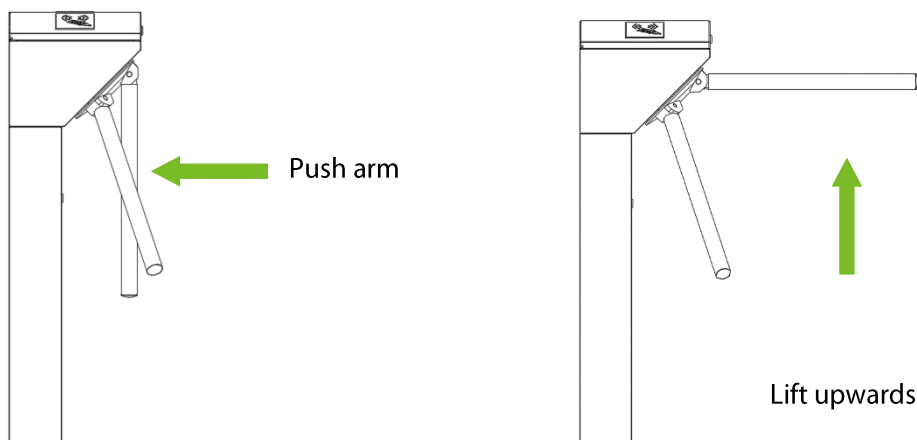

Figure 2-2
4. Lift the arm manually, as shown in Figure 2-2